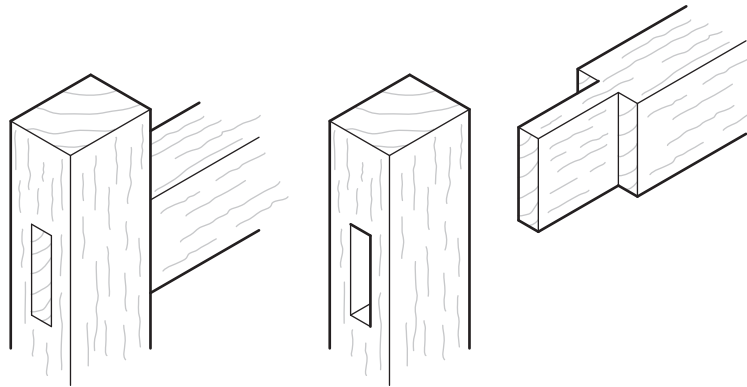

Fig. 3.1
- 3 Fig. 3.1 shows views of a mortise and tenon joint. Add sketches and notes to Fig. 3.1 to show how the joint could be strengthened.